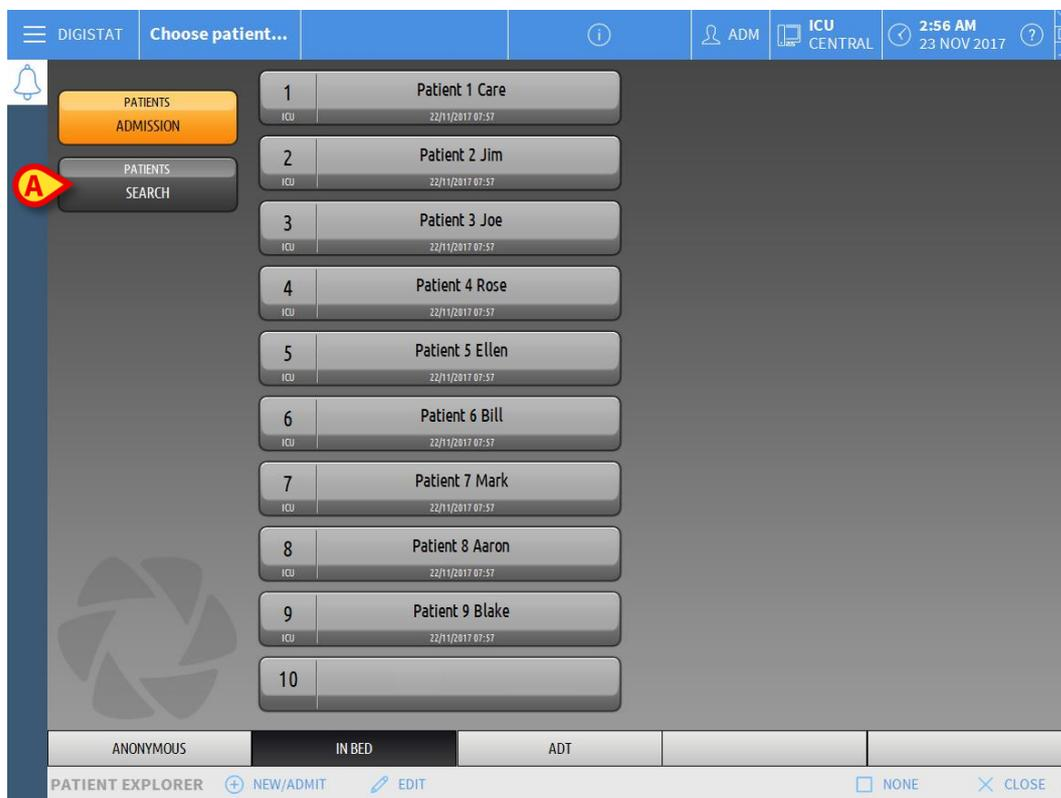

Fig 104
- Click the  button indicated in Fig 104 **A**